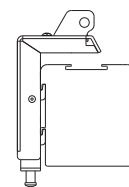

Figure 15
3. Attach the wall and ceiling brackets to the casing as shown in figures 15 and 16.